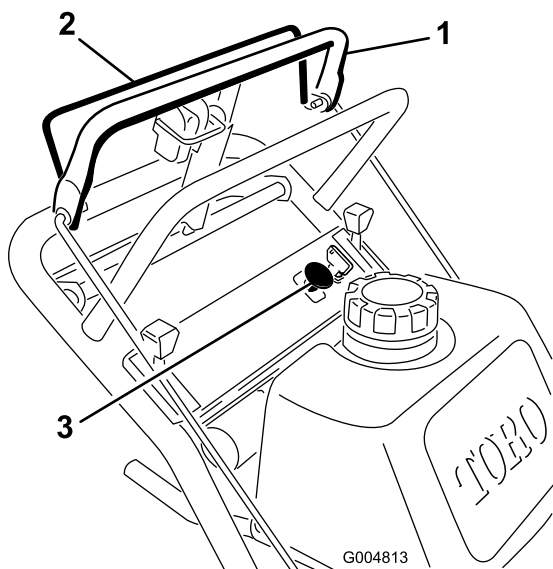

Figure 9
1. Release the upper control bar to stop the machine (Figure 9).
2. To engage blade, squeeze blade control bail against the upper control bar (Figure 9).
Release the blade control bail to disengage the blades (Figure 9).